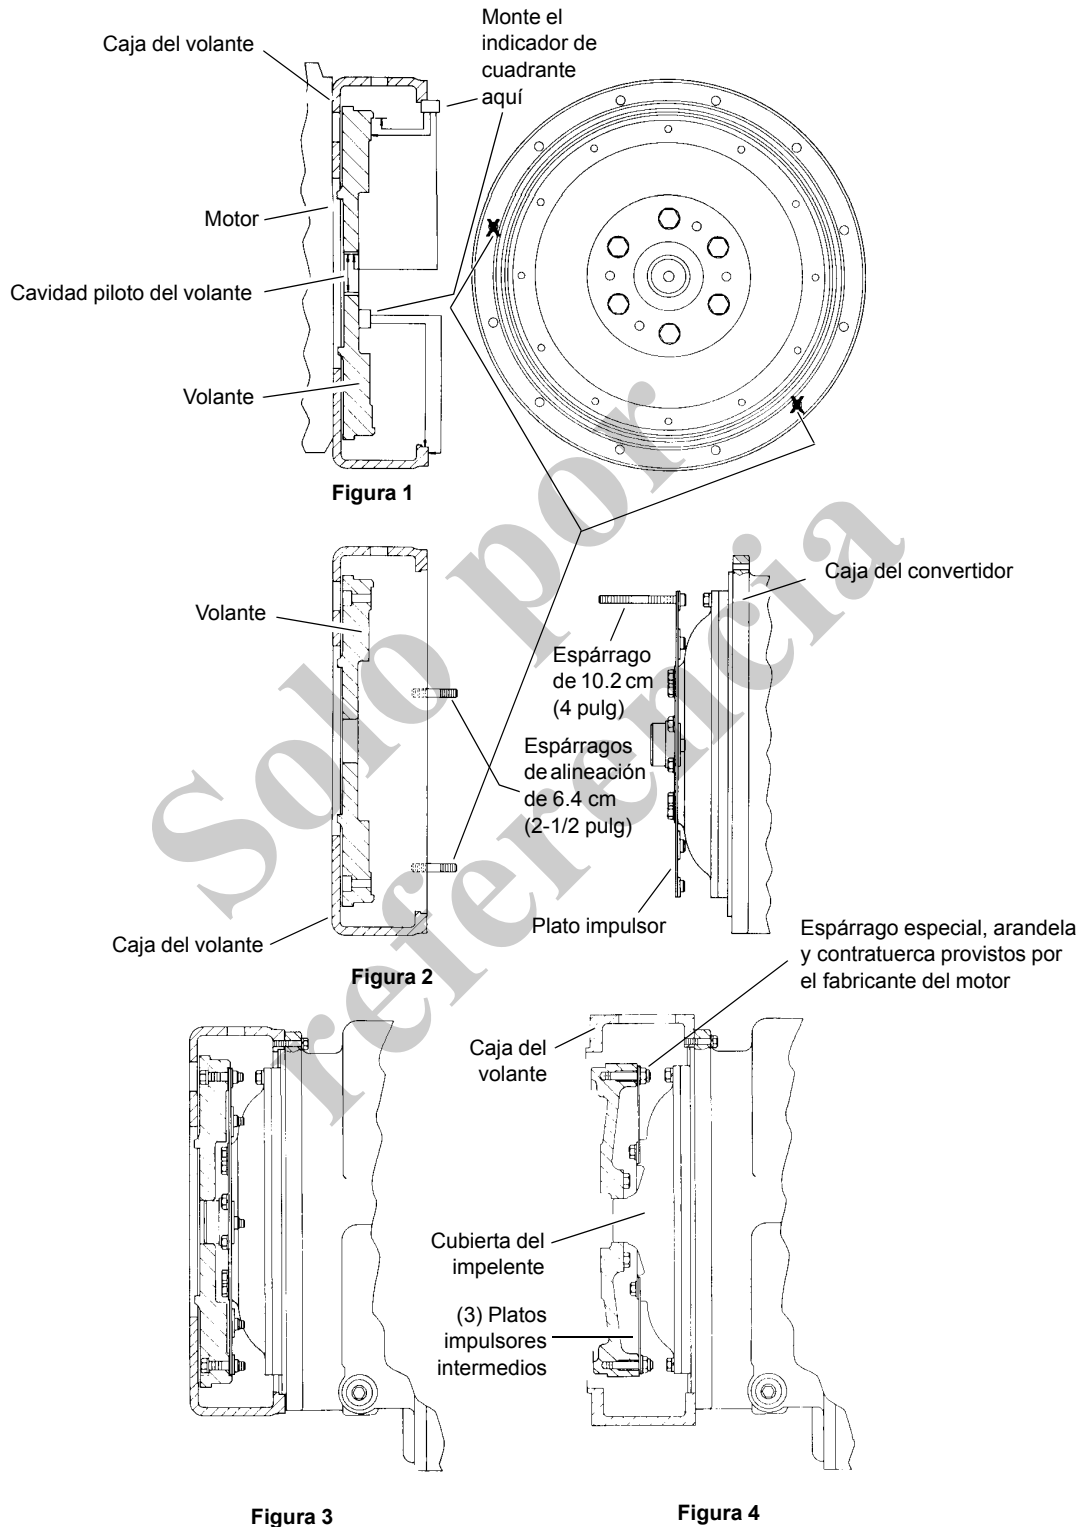

FIGURA 7-12
**NOTA:** Consulte Figura 7-12.